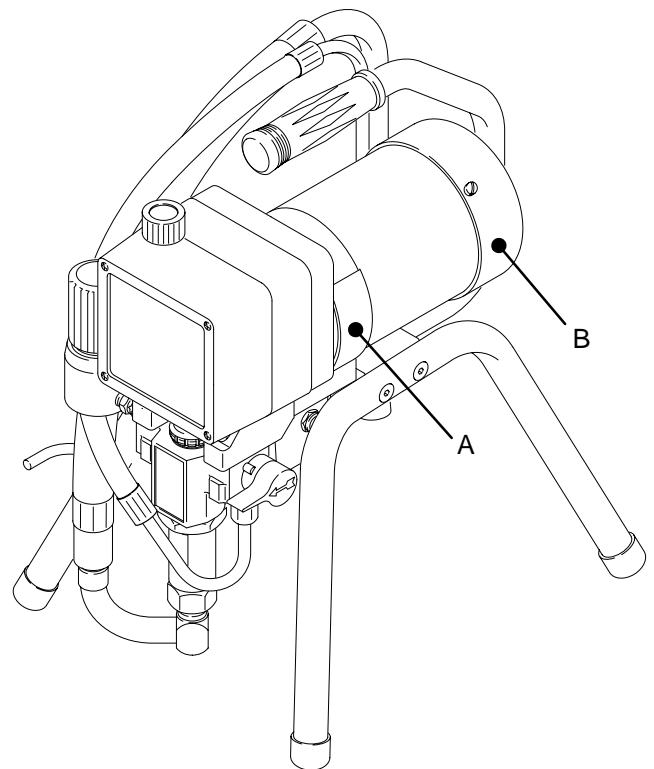

Fig. 11 **Model 231–298 Shown**
Remove the motor brush inspection covers (A). See Fig. 11.
Remove the fan cover (B). See Fig. 11.